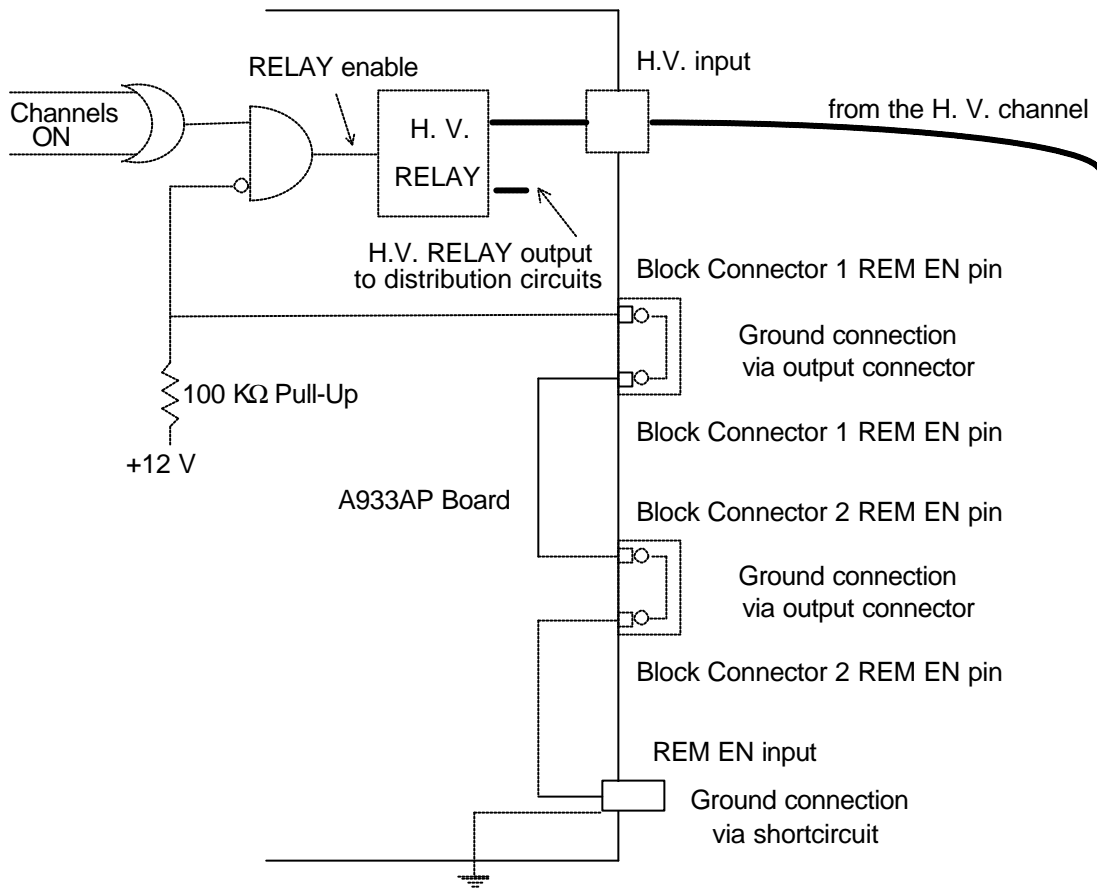

Fig. 2.7: Mod. A933A With Relay Remote Enable Scheme
The Board can be optionally provided with a High Voltage electronic Relay. This relay is enabled with a protection scheme different from the above mentioned. The relay is active (i.e. the H. V. can reach the distribution circuits) with the occurrence of ALL of the following conditions (see Fig. 2.7):
**N.B.:** With the relay option, if ALL channels of the distributor are set to OFF, the input High Voltage is NOT supplied to the distributor circuits (no H. V. output on the Multipin Connectors). The first channel of the A933A set to ON switches the Relay ON: the High Voltage Relay Output (see fig. 2.7) ramps up to the input voltage at approx. 250 V/s and the multipin connector will supply the programmed H. V. value on the channels ON and the input H. V. value minus the max. drop on the channels OFF (see § 2.2.3).
**N. B.:** With the Relay option, when the Remote Enable connections are in place according to Fig. 2.7, in order to be sure that there is no H. V. present on the Multipin connectors, ALL channels must be set to OFF. If at least one channel is set to on, ALL channels of the board will supply High Voltage on the multipin connector.